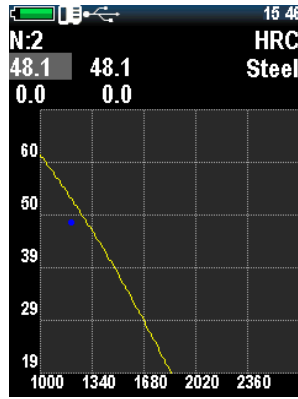

Figure 2.37 - Calibration measurements
5. Moving the cursor with  key, select the first line. Make about five measurements on the first reference sample, the device will show the average value of the series according to the current calibration (Fig. 2.37). If you got obvious error of measurement push  key, and the last measurement will be deleted from the series.